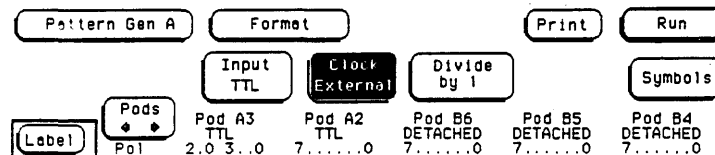

Figure 3-17. Clock Field
f. Touch Clock field and set to External as shown in figure 3-17.